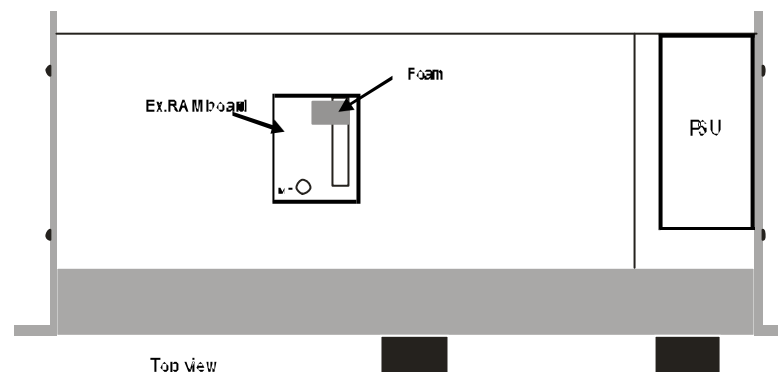

Fig. 2: Location of Ex.RAM board and foam.
- D. Replace the old Ex.RAM board at J13 with the new Ex.RAM board. See fig. 2.
- E. Fasten the board to the metal spacer by use of 1 screw and 1 star washer. See fig 2.
- F. Mount the foam piece on top of the Ex.RAM board in the end opposite of the screw if the foam wasn't fitted by TC. See fig. 2.
14. Mount the new Ex.RAM board at J13. See fig. 2.
15. Mount the foam piece on top of the Ex.RAM board in the end opposite of the screw if the foam wasn't fitted by TC. See fig. 2.
16. Fasten the board to the metal spacer by use of 1 screw and 1 star washer. See fig 2.